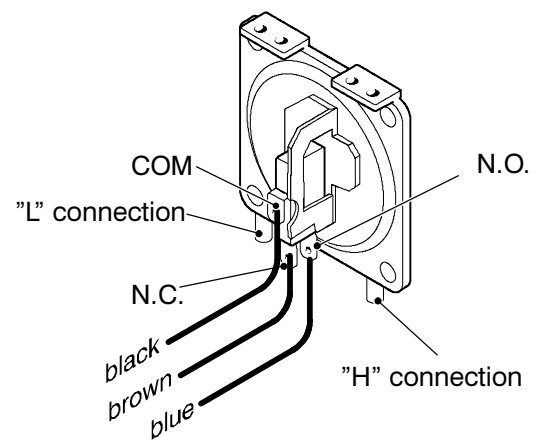
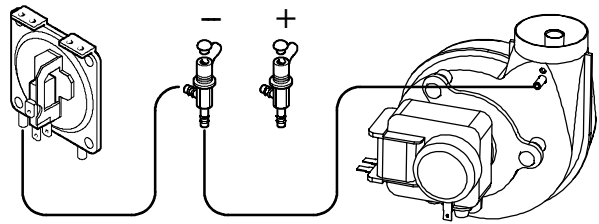

Fig. 69a
Fig. 73
Refer to the Fig. 69a or b in accordance with the type of air pressure switch used.
**Warning:** to correctly connect the venturi device to the Air pressure switch, refer to Fig. 73.
**Warning: to correctly connect the Air pressure switch, refer to Fig. 73 and Fig. 69a or Fig. 69b for the correct wiring.**